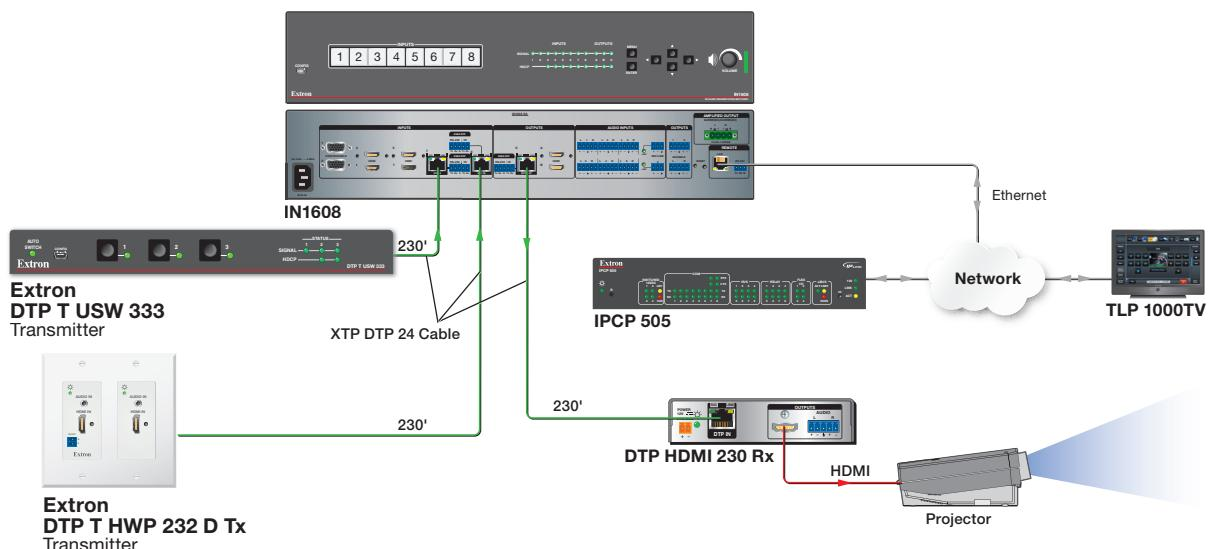

Figure 1. Typical Switching Transmitter Application
The DTP T USW 333 is a 3-input VGA and HDMI switcher with a DTP transmitter output (see figure 1). It switches among one analog VGA and two HDMI inputs, including embedded audio (or DVI video with the appropriate adapters). The switcher converts the selected input, an optional analog audio input, and bidirectional RS-232 and infrared (IR) control signals to a proprietary digital signal. It outputs the signal to a compatible DTP receiver. The switcher and receiver extend the usable distance of video, audio, and control signals up to 330 feet (100 meters) over a single shielded twisted pair cable (STP).
NOTE: In figure 1, the effective range between the DTP T USW 333 and the IN1608 is 230 feet (70 meters). This is the range limitation of the IN1608, not the DTP T USW 333.